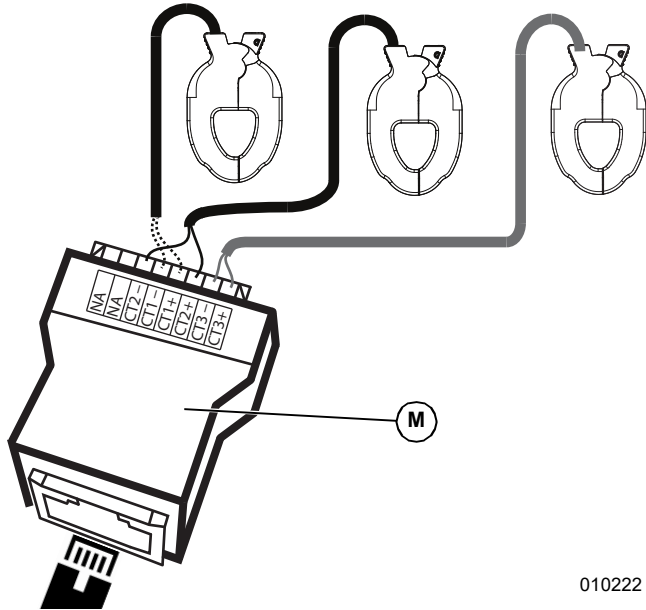

Figure 5-8. RJ-45 Breakout Adapter
1. See Figure 5-8. Connect CT leads to RJ-45 Breakout Adapter's (M) push terminals according to the label on the breakout adapter.